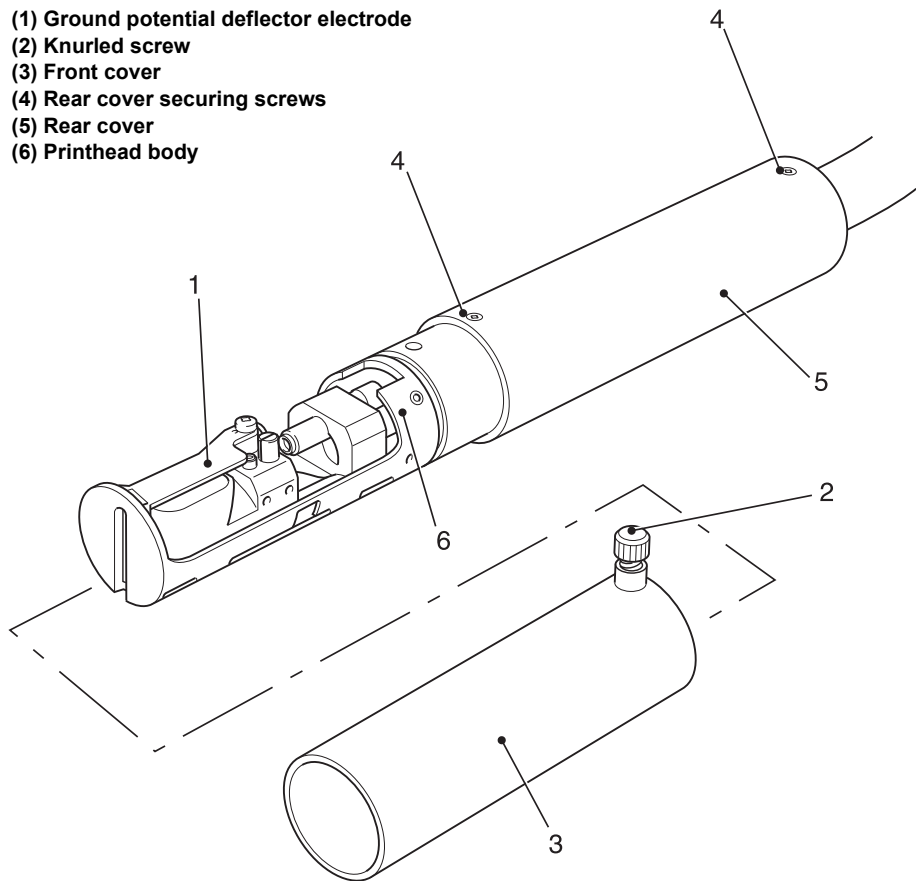

Figure 11-5. Printhead Assembly
- 2 Loosen the knurled screw (Item 2 in Figure 11-5) and remove the printhead front cover (3).
- (1) Ground potential deflector electrode
(2) Knurled screw
(3) Front cover
(4) Rear cover securing screws
(5) Rear cover
(6) Printhead body